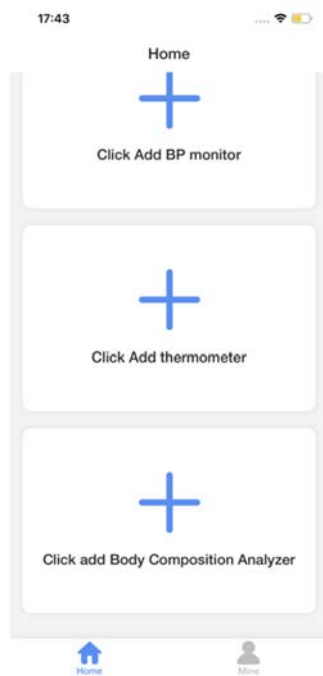

Figure 1
- Turn on the Bluetooth function and click add body fat scale, as shown in Figure 1